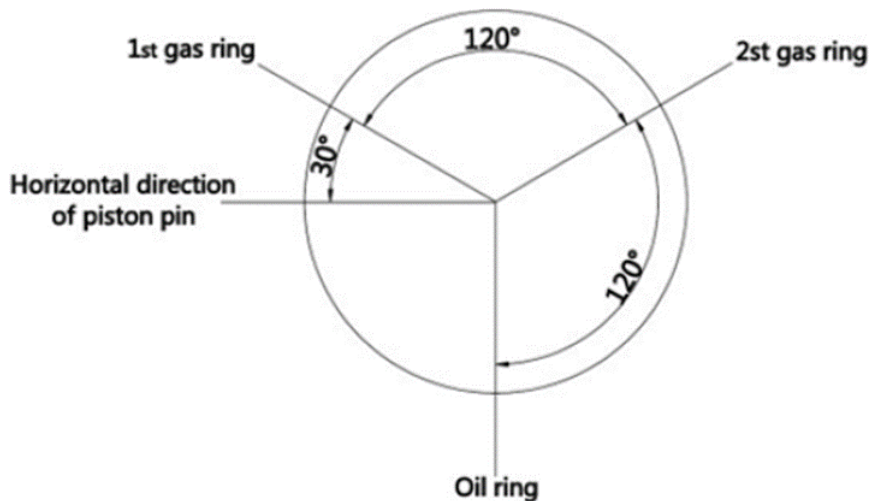

Figure 134.
- Ensure the piston ring gaps are located correctly (Figure 134).
3. Using a piston ring compressor (Figure 134, Item 1), compress the piston rings.
5. Lower the mobile coupling (Figure 134, Item 2) until the connecting rod big end and its half bearing are in place on the crank pin.
6. Reinstall the connecting rod cap (Figure 134, Item 3). Fit the connecting rod bolts (Figure 134, Item 4) and fully engage the cap (turn the crankshaft to facilitate fitting of bolts).
7. Tighten the connecting rod bolts (Figure 134, Item 4) in following sequence:
- Use the camshaft installation tool (Figure 134, Item 1) if necessary.